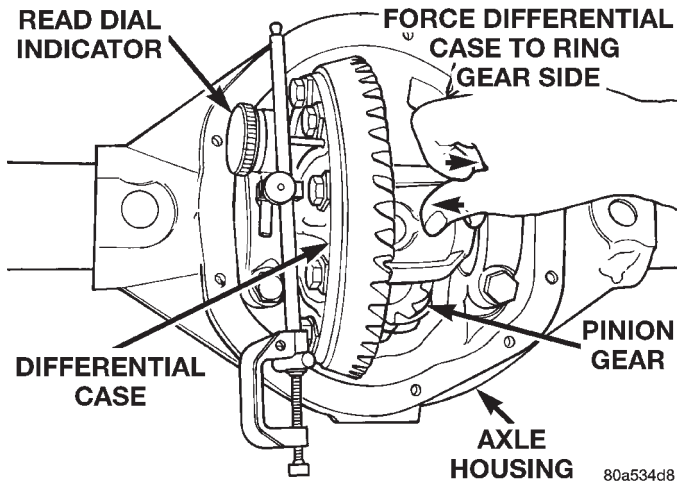

Fig. 72 Hold Differential Case and Read Dial Indicator
(24) Push and hold differential case to ring gear side of the axle housing (Fig. 72).
(25) Record dial indicator reading (Fig. 72).
(26) Subtract 0.002 in. (0.05 mm) from the dial indicator reading to compensate for backlash between ring and pinion gears. This total is the thickness shim required to achieve proper backlash.
(27) Subtract the backlash shim thickness from the total preload shim thickness. The remainder is the shim thickness required on the pinion side of the axle housing.
(28) Rotate dial indicator out of the way on guide stud.
(29) Remove differential case and dummy bearings from axle housing.
(30) Install side bearing shims on differential case hubs.